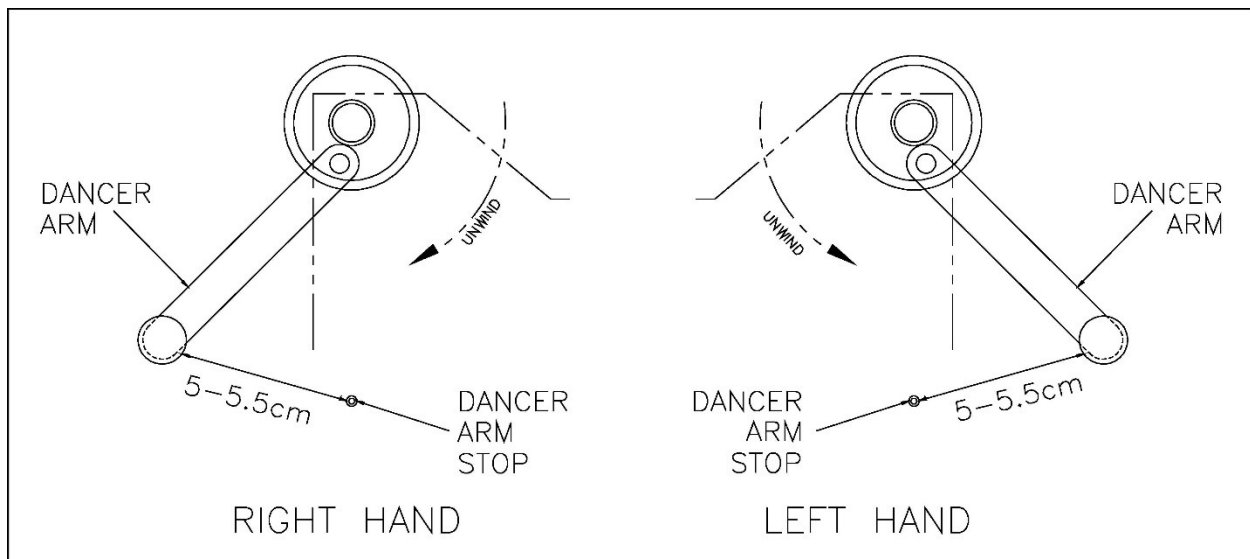

Figure 7 Dancer Arm
3. Position the dancer roller 5cm to 5.5cm (2 to 2 1/4 inches) away from the dancer arm stop. Tighten the flat head screw with the 3/16 inch hex head wrench. See Figure 7.